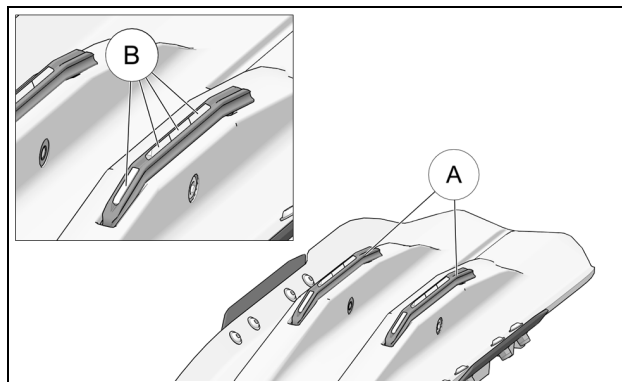

Figure 39
If the ski lacks support through turns on ice, check condition of carbide runners (A). If carbide inserts (B) show abnormal wear, cracks or missing fragments, replace the parts. If the carbide inserts show flat spots wider than 2 mm, they do not provide the necessary support. Replace them. Figure 39.